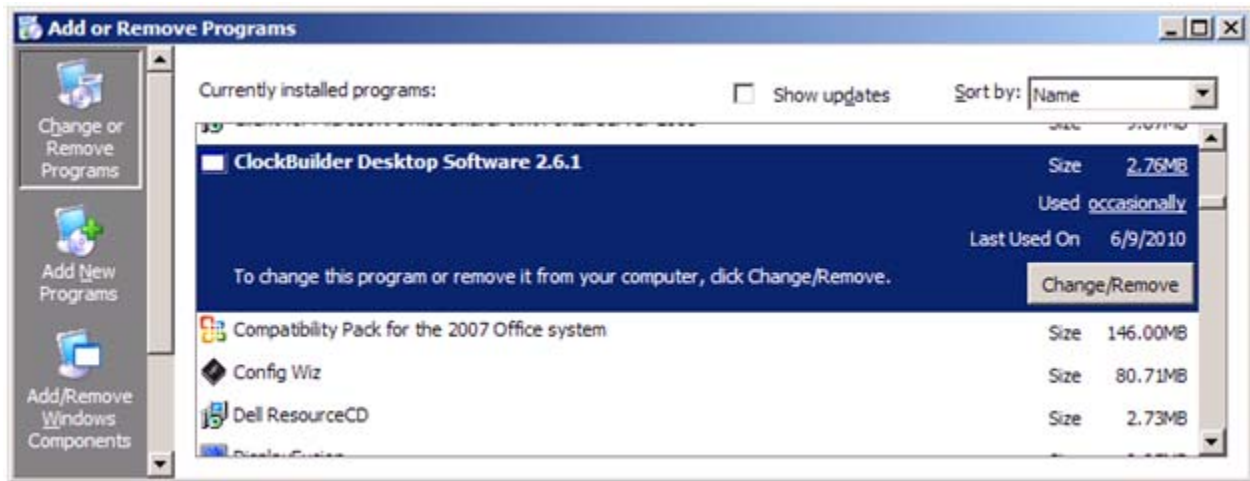

Figure 4. Uninstall in Add and Remove Programs
2. Use the Add and Remove Programs utility in the Control Panel, as shown in Figure 4, or click on **Start** → **Programs** → **Silicon Laboratories** → **ClockBuilder Desktop Software** → **Uninstaller**.
- Updated Figure 4 on page 12.